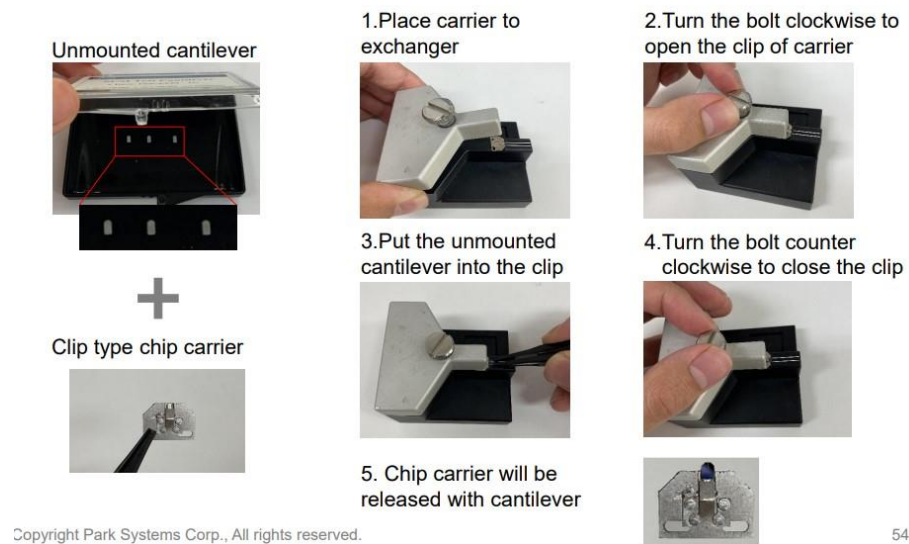

Figure 2: Loading unmounted tips on clip-type chip carrier
- Flip open the probe mounter and place the clip-type chip carrier so that it rests on the small peg. See **Figure 2**